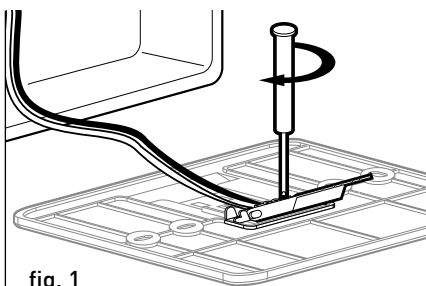

fig. 1
- before connecting the wires to the base of the system interface, slide the tab protecting the connector and lift it up (fig. 1);